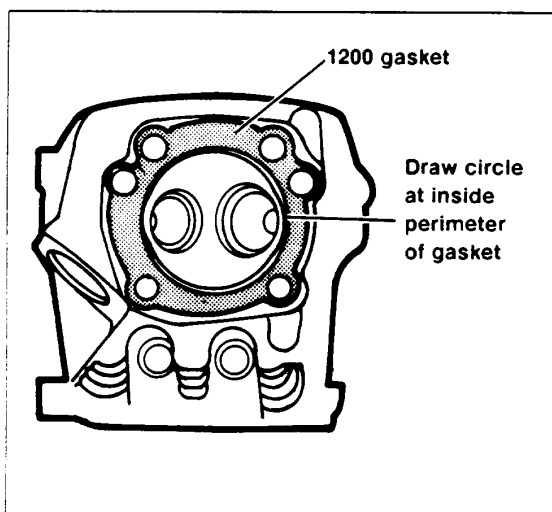

Figure 1. Scribing Perimeter
3. See Figure 1. Apply machinists die or magic marker to gasket surface of cylinder head. Take the 1200cc gasket from the 1200cc Big Bore Kit and position on cylinder head with holes aligned. Insert two short 3/8" diameter bolts through gasket and into two diametrically opposite bolt holes to keep gasket centered. Hold gasket securely while drawing a circle around the inner perimeter of the gasket. Remove bolts and 1200cc gasket.